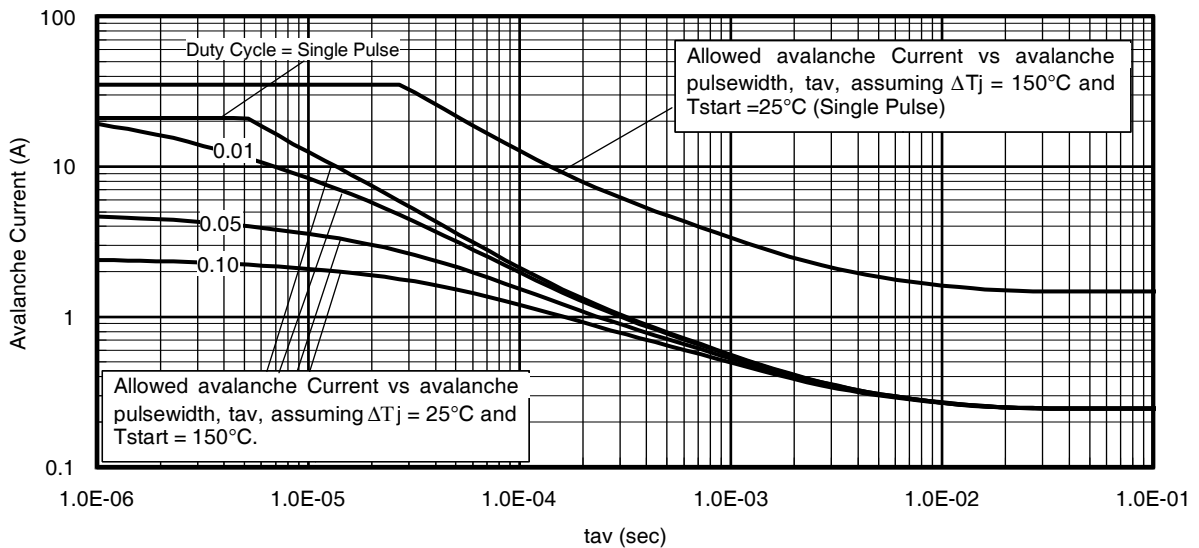

Fig 14. Typical Avalanche Current Vs. Pulsewidth
- ① Repetitive rating; pulse width limited by max. junction temperature.
- ② Starting $T_J = 25^\circ\text{C}$, $L = 0.51mH$, $R_G = 25\Omega$, $I_{AS} = 21A$.
- ③ Pulse width $\leq 400\mu s$; duty cycle $\leq 2\%$.
- ④ R_θ is measured at T_J of approximately 90°C .
⑤ Limited by T_{jmax} . See Figs. 14, 15, 17a, 17b for repetitive avalanche information
⑥ When mounted on 1" square PCB (FR-4 or G-10 Material). For recommended footprint and soldering techniques refer to application note #AN-994.
Notes on Repetitive Avalanche Curves, Figures 14, 15:
7. ΔT = Allowable rise in junction temperature, not to exceed T_{jmax} (assumed as 25°C in Figure 14, 15).